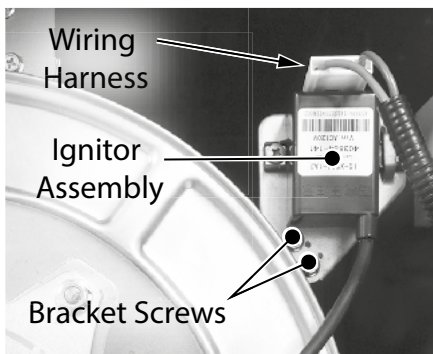

Figure 16 - Ignitor assembly location
- 31 Locate the ignitor assembly on upper right side of the heat exchanger as shown in Figure 16.